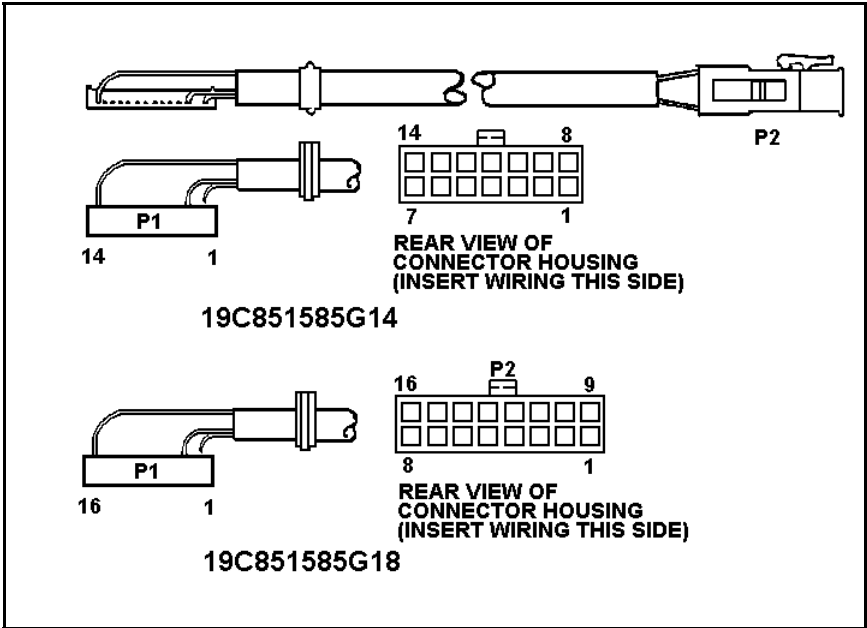

Figure 9- Option Cable Pin Locations
The option cable kit brings all option connections from the System Board through the back of the radio to the outside. This cable is required with all external options. Supplied with the option cable is the empty connector housing which plugs into P2 of the option cable. Pins supplied on the ends of the wires of each option (Molex #39-00-0060) are inserted into this connector housing. Refer to the inter-connection diagrams at the back of this manual. See Figure 9 for pin locations. Table 2 lists wire connections and functions.
3. Pins are supplied on the ends of the external speaker cable option PMCC9M. Push these pins into sockets 2 and 9 of the connector housing supplied with the option cable. Refer to Figure 9 and Table 2.